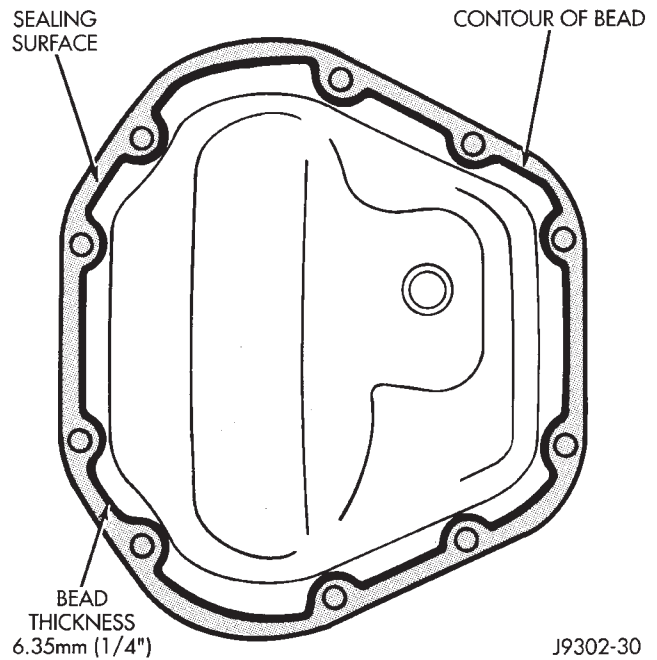

Fig. 43 Typical Housing Cover With Sealant
(1) Install the axle shafts. Refer to Axle Shaft Installation within this group.
(2) Scrape the residual sealant from the housing and cover mating surfaces. Clean the mating surfaces with mineral spirits. Apply a bead of MOPAR® Silicone Rubber Sealant on the housing cover (Fig. 43). **Allow the sealant to cure for a few minutes.**